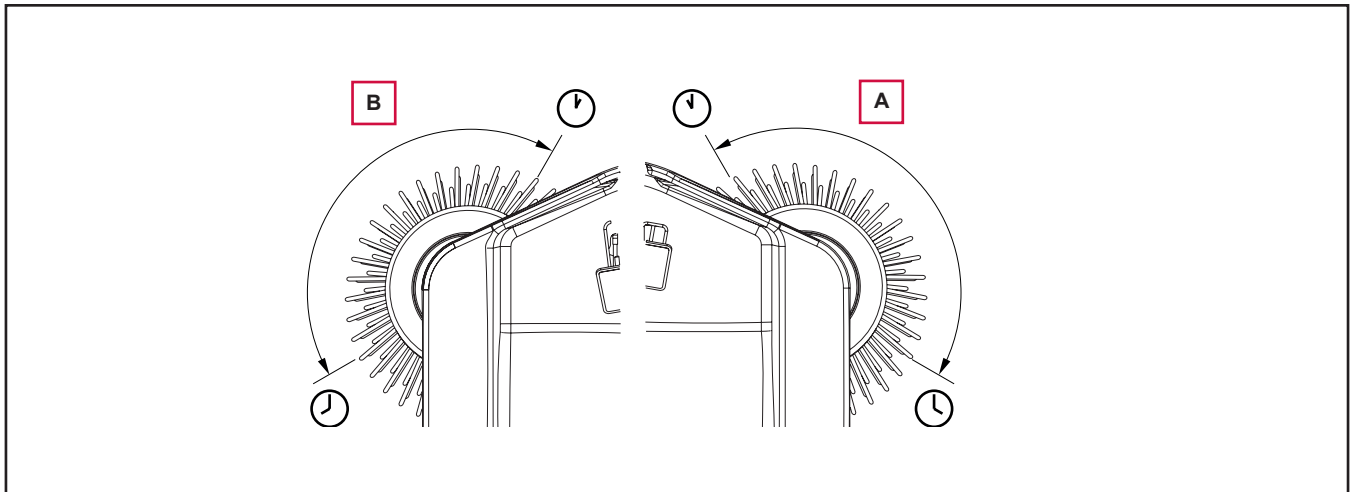

Figure 3
- Check that the side broom prints are as shown in the figure (A, Fig. 3) and (B).